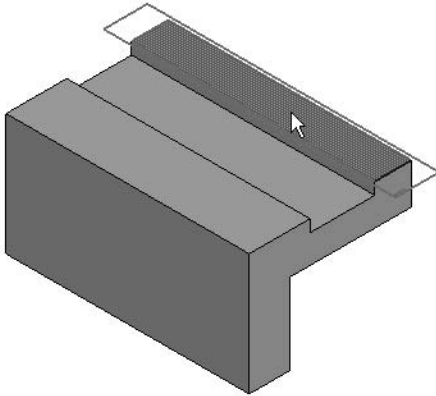

Figure 5-51 Specifying the orientation of the sketching plane for the second feature
- Select the top planar face of the base feature as the sketching plane and then create the second feature, refer to Figures 5-51, 5-52, and 5-53.
2. Move the cursor on the top face of the base feature and then press the N key once. Then, click to orient the sketching plane, as shown in Figure 5-51.